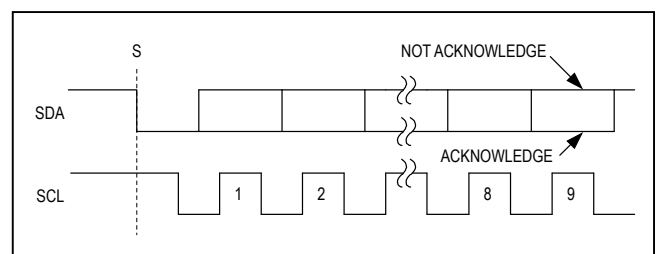

Figure 6. Acknowledge Bits
Data transfers are acknowledged with an acknowledge bit (A) or a not-acknowledge bit (Ā). Both the master and the MAX11606–MAX11611 (slave) generate acknowledge bits. To generate an acknowledge, the receiving device must pull SDA low before the rising edge of the acknowledge-related clock pulse (ninth pulse) and keep it low during the high period of the clock pulse (Figure 6). To generate a not-acknowledge, the receiver allows SDA to be pulled high before the rising edge of the acknowledge-related clock pulse and leaves SDA high during the high period of the clock pulse. Monitoring the acknowledge bits allows for detection of unsuccessful data transfers. An unsuccessful data transfer happens if a receiving device is busy or if a system fault has occurred. In the event of an unsuccessful data transfer, the bus master should reattempt communication at a later time.